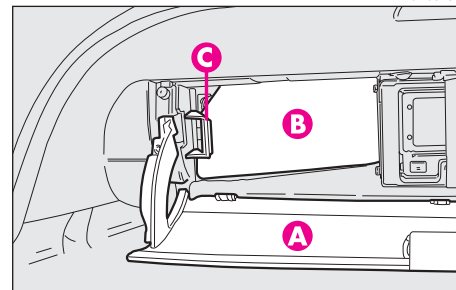

fig. 33
- From inside the boot, open the compartment (**A-fig. 33**) and then the door (**B**) through the tab (**C**);